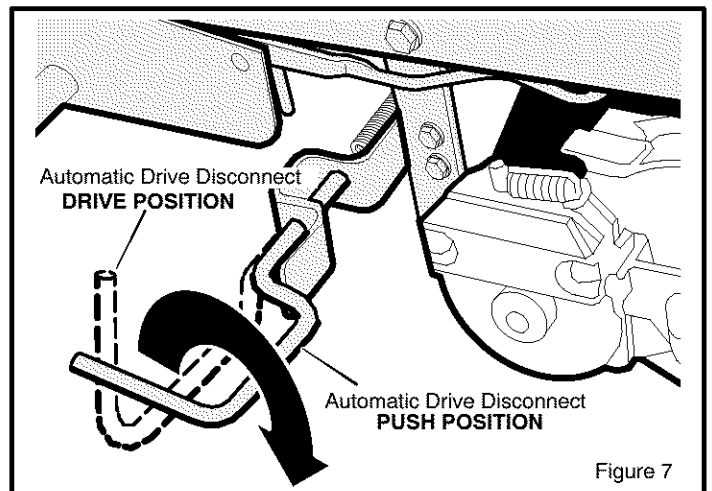

Figure 7
To push the unit, use the **automatic drive disconnect** to release the transmission. (Figure 7)
3. Move and latch the **automatic drive disconnect** in the **PUSH** position (Figure 7). The transmission is now *released* and the unit can be pushed.
1. The **automatic drive disconnect** must be in the DRIVE position (Figure 7).